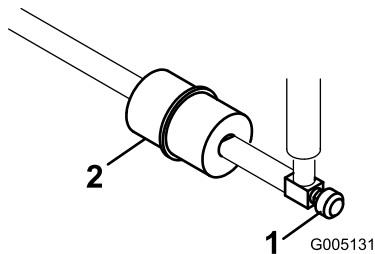

Figure 45
An in-line filter is incorporated into the fuel line between the fuel tank and carburetor (Figure 45). Be sure the arrow on the filter is pointing away from the fuel tank.
1. Close the fuel shut off valve, loosen the hose clamp on the carburetor side of filter, and remove the fuel line from the filter (Figure 45).
2. Place a drain pan under the filter, loosen the remaining hose clamp and remove the filter (Figure 45).